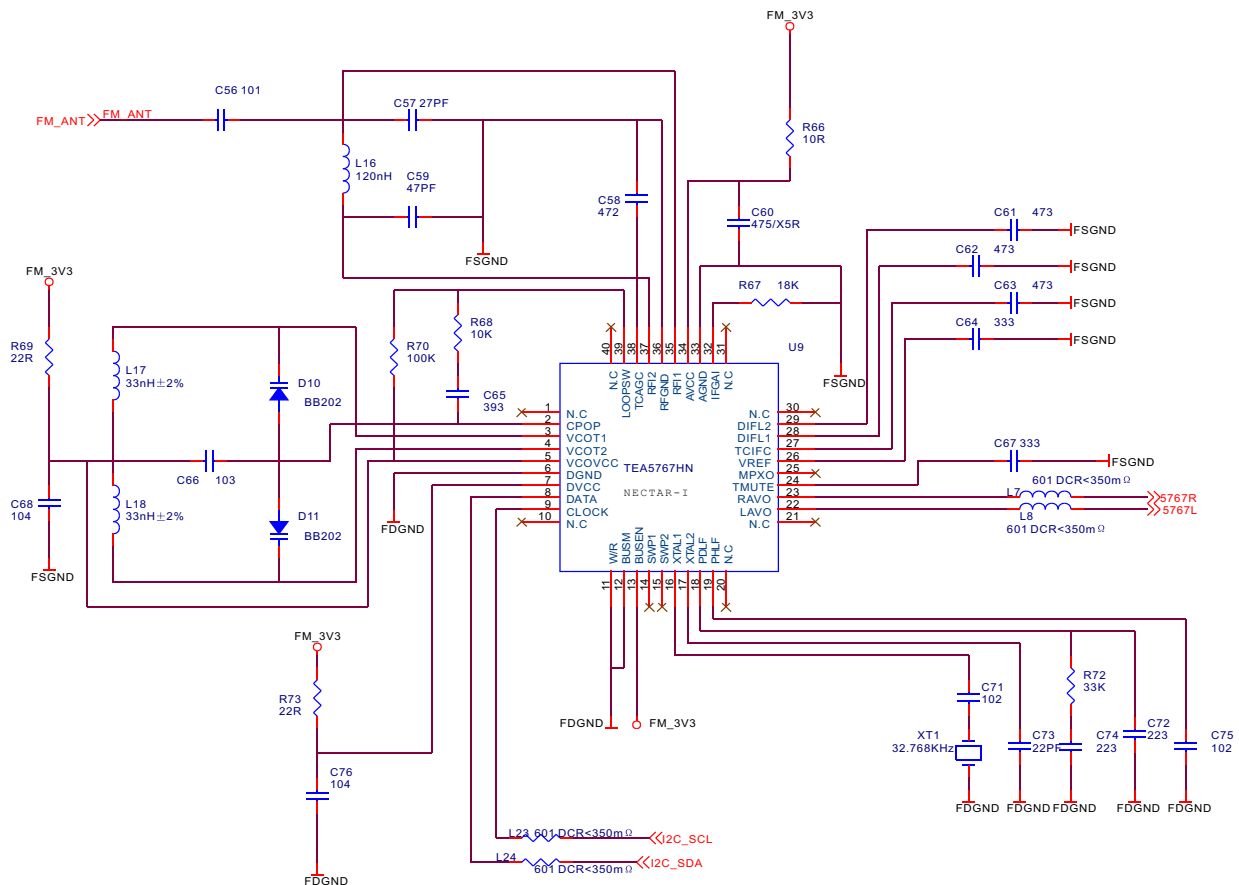

Figure 3.2.4.1 FM tuning circuit diagram
1. FM tuning circuit diagram is shown in the figure 3.2.4.1